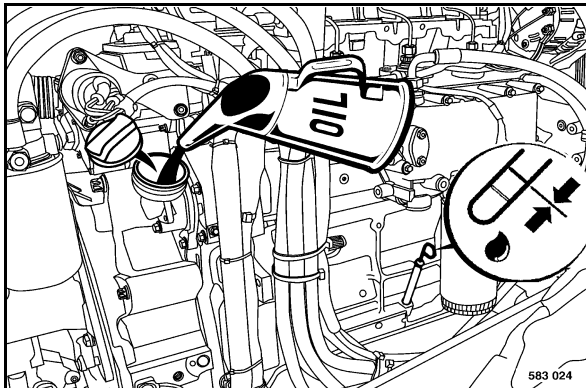

Fig. 121
- Pull the dipstick (Fig. 121) out, wipe it off with a lint-free, clean cloth and reinsert it until it bottoms.